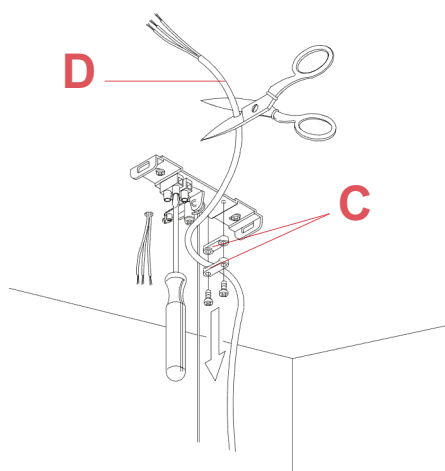

Fig.3
Detach the cable-block (C), disconnect the feed cable (D) and cut it at the height desired.(Fig.3)